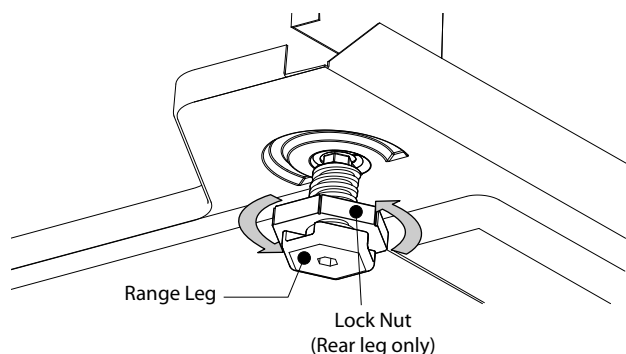

Figure 16
- Loosen legs and lock nuts to set level of the range. (Note that the lock nuts are only on the rear feet). See Figure 16.